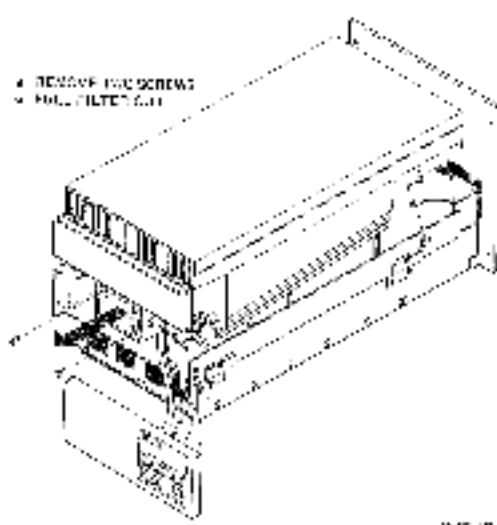

Figure 4-11 Removing the Make-Up Filter
2. Remove two screws securing make-up filter to drive mechanics assembly (Figure 4-11).